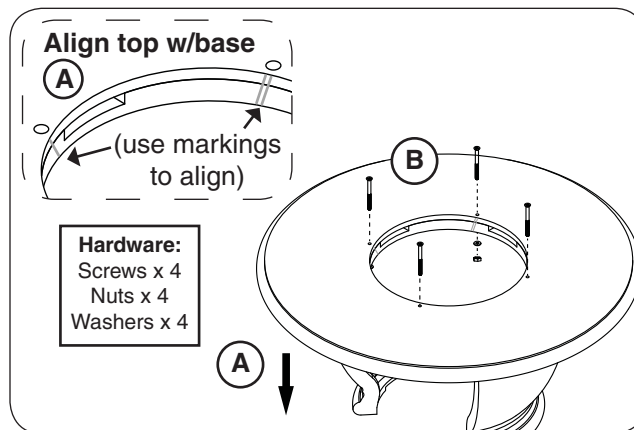

Fig. 18-3 Place top and fasten
3. **CAREFULLY** place the top on the unit, ensuring that the markings along its inner ring align with those found on the base (see Fig. 18-3, A).
4. Use a Phillips screwdriver and the supplied bolts (4), nuts (4), and washers (4) to fasten the top to the base as shown in Fig. 18-3, B.